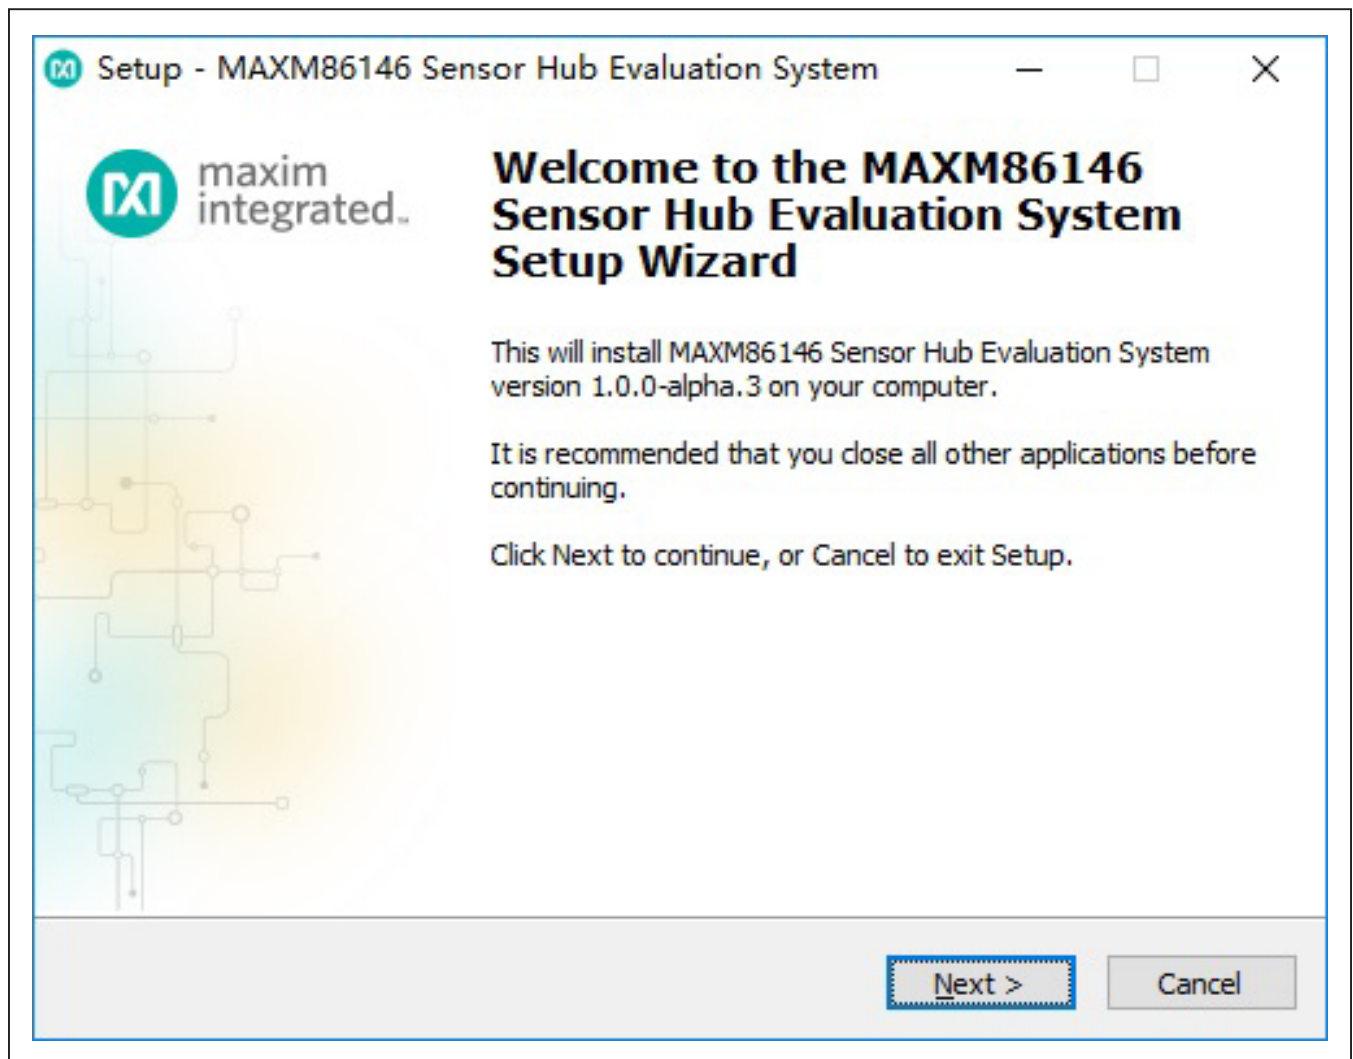

Figure 1. Setup MAXM86146 EV System GUI Software Step 1
- 3) Open up MAXM86146GUISetupVxxx.exe and follow the instructions from the pop-up windows as shown in Figure 1 to Figure 7.